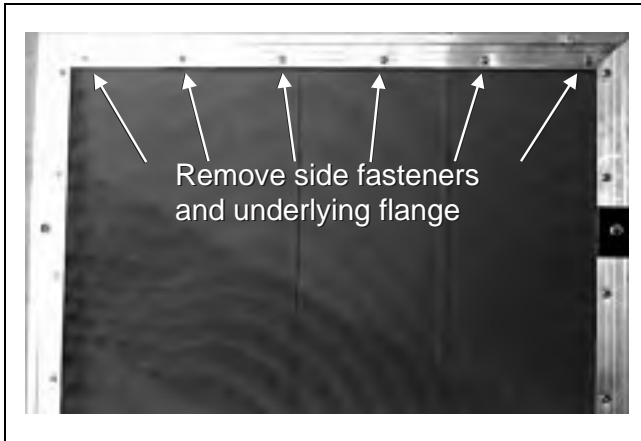

FIGURE 4 (MSSMD447AE)
1. Remove the fasteners and flanges (FIGURES 4 and 5) from both of the small frame sides.